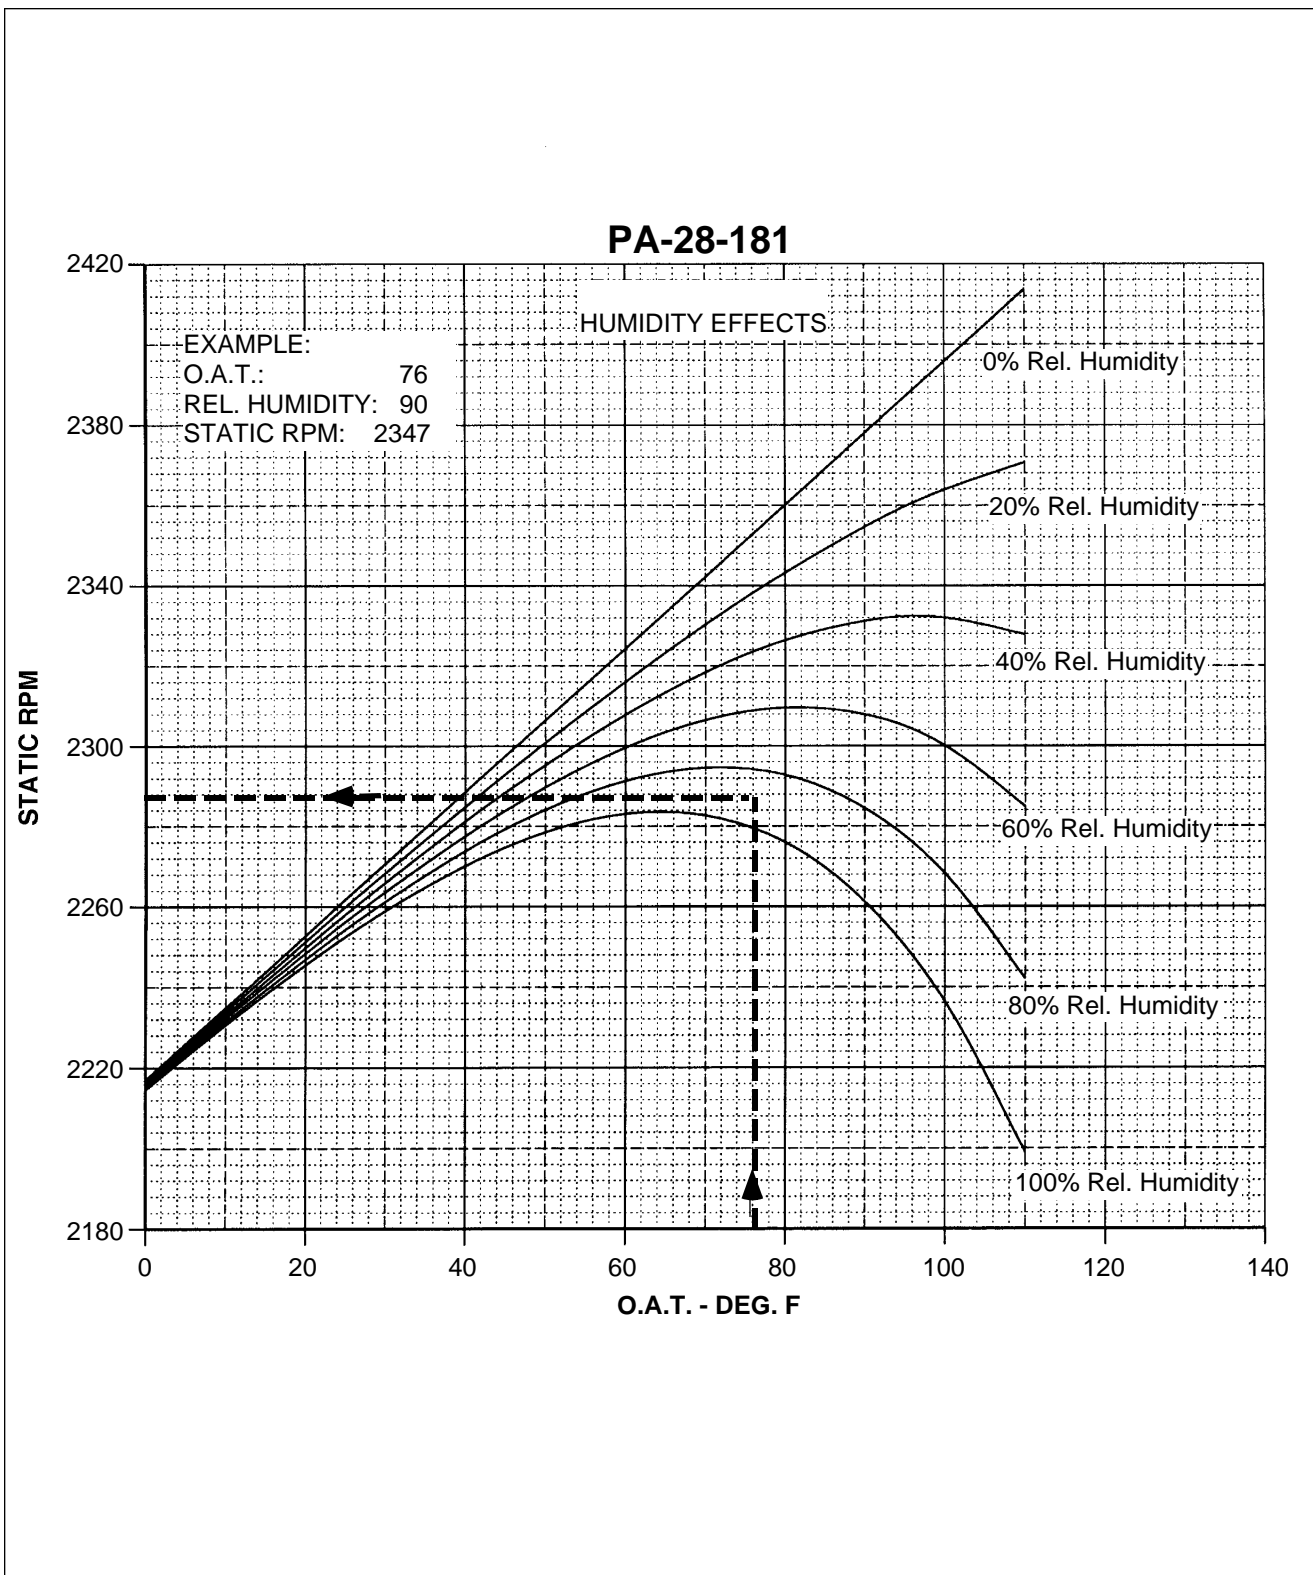
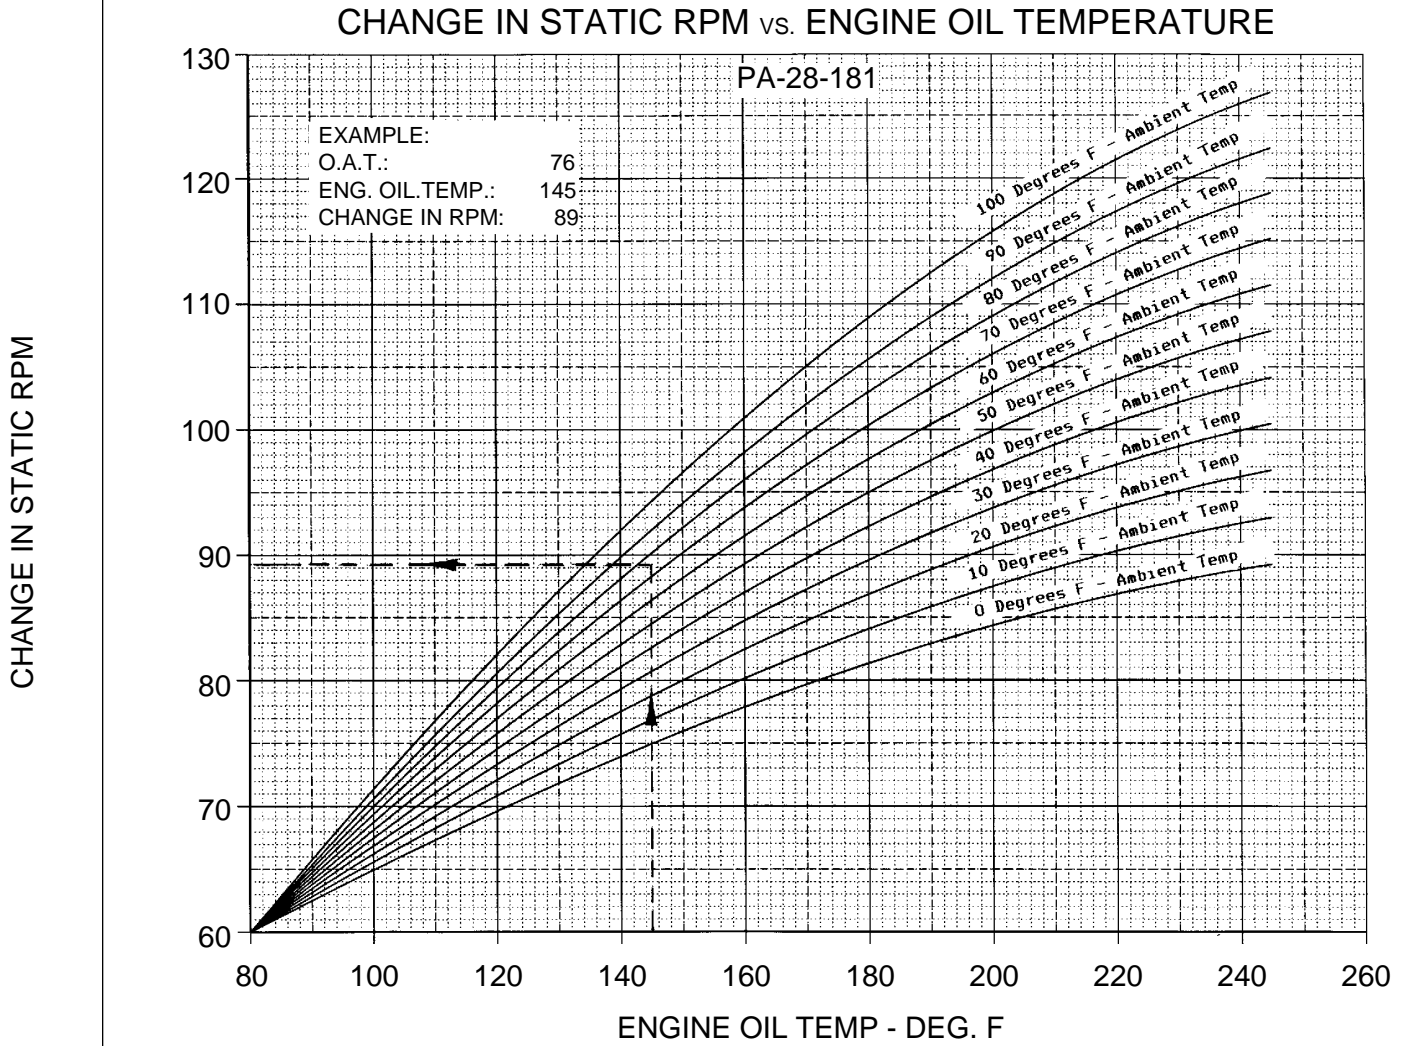

Figure 71-1. Static Rpm (Sea Level ± 500 Feet Pressure Altitude Only)
Figure 71-2. Change in Static Rpm Vs. Engine Oil Temperature
- f. With OAT and relative humidity, read static rpm from Figure 71-1.
- g. With the oil temperature and OAT, read delta rpm from Figure 71-2.
- h. Subtract the delta rpm obtained from Figure 71-2, from the static rpm obtained from Figure 71-1. This is the BASELINE.
Rpm: _____ (Reference Figure 71-1)
Delta rpm (subtract) _____ (Reference Figure 71-2)
E REMOVAL OF ENGINE. (Refer to Figures 71-1 and 71-2.)
D. INSTALLATION OF ENGINE. (Refer to Figures 71-1 and 71-2.)